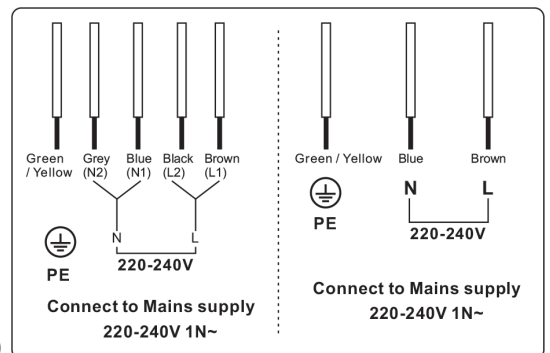

fig.1
• The "blue" "grey" neutral wire must be connected to the terminal marked with letter (N) - the "Black" "brown" live wire (L) must be connected to the terminal marked with letter (L) (220-240V 1N~). see Fig.1.
- This appliance must be wired into a 40A double pole switched fused spur outlet, having 3 mm contact separation and placed in an easily accessible position adjacent to the appliance. It should not be located above the appliance and no more than 1.25m away from it. See Fig.1.
- The "blue" "grey" neutral wire must be connected to the terminal marked with letter (N) - the "Black" "brown" live wire (L) must be connected to the terminal marked with letter (L) (220-240V 1N~). See Fig.1.